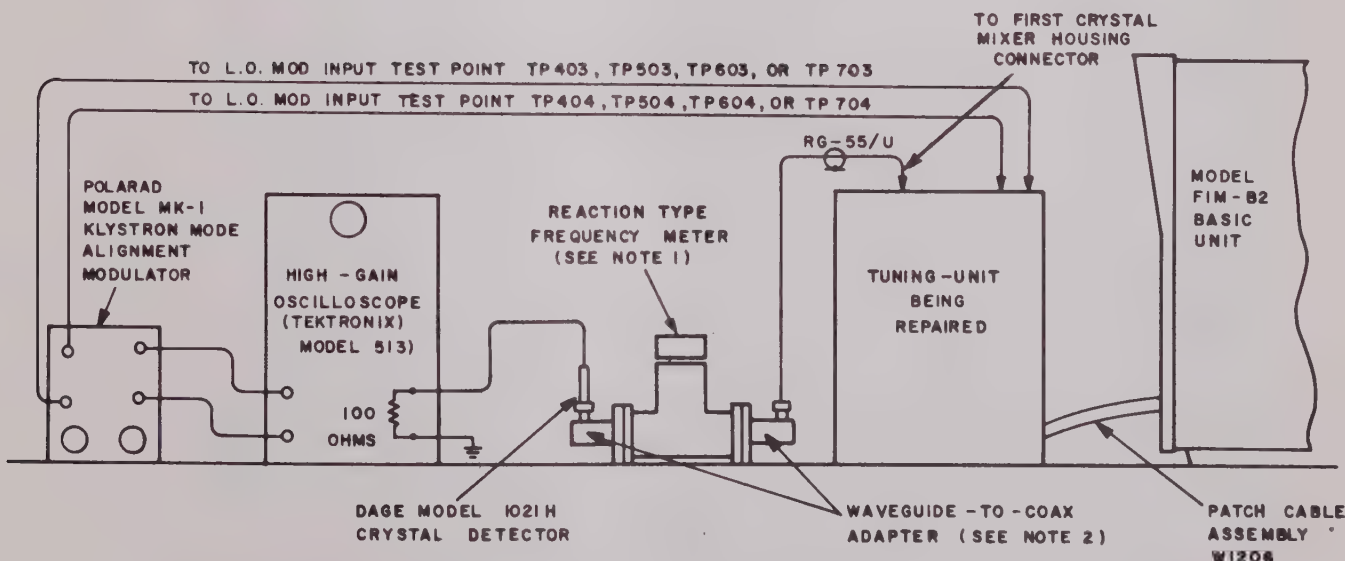

Figure 4-26. Tracking First Local Oscillator Reflector Voltage,
d. Connect a length of RG-55/U coaxial cable between the first crystal mixer housing connector and the input connector of a frequency meter, as shown in figure 4-26.
e. Connect a crystal detector, having a d-c return, between the output connector of the frequency meter and the vertical input terminals of a high-gain oscilloscope, as shown in figure 4-26.
oscilloscope, as shown in figure 4-26.
f. Connect the "reflector" terminals of the Polarad Model MK-1 Klystron Mode Alignment Modulator to the Tuning Unit L.O. Mod Input test points, TP703 and TP704 (TP403 and TP404), as shown in figure 4-26. If the Model MK-1 is not available, an equivalent klystron modulator can be constructed with the aid of the schematic diagram supplied in figure 4-27.
g. Connect the horizontal input terminals of the high-gain oscilloscope to the Model MK-1 "h scope" and "ground" terminals, as shown in figure 4-26.
i. Connect patch cable assembly W1206 between P1150 of the Tuning Unit being repaired and J1150 of the Basic Unit, as shown in figure 4-26.